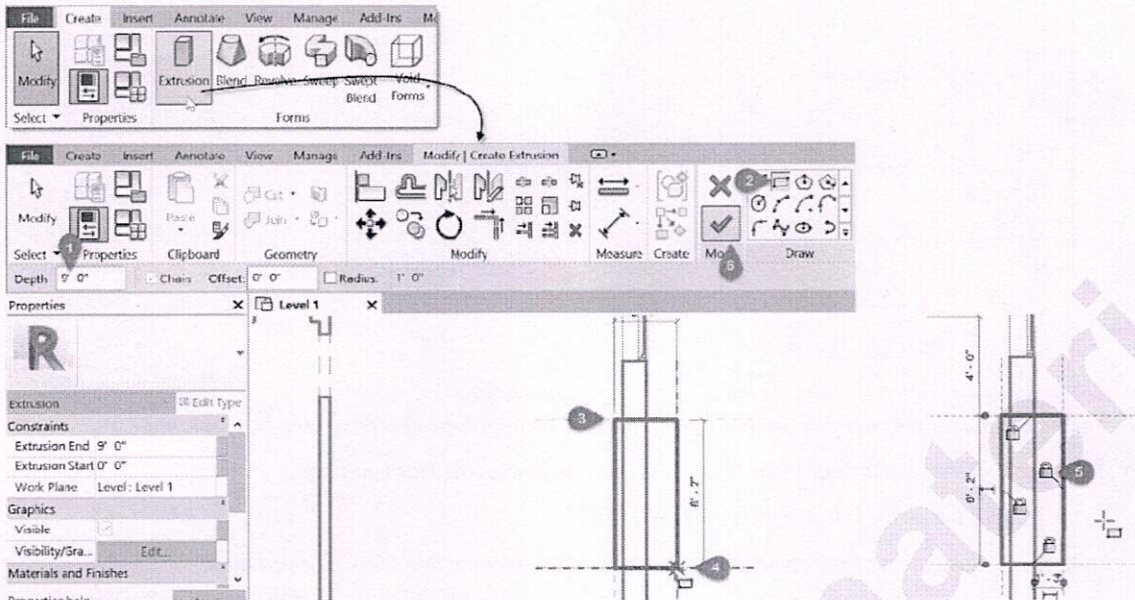

FIGURE 4.62 Sketch the overall shape of the extrusion
1. On the Create tab, on the Forms panel, click the Extrusion tool (see the top of Figure 4.62).
- ⇒ On the Options Bar, in the "Depth" field, type: **9'-0" [2750]**. (Be sure to set the Depth and not the Offset—Item 1 in Figure 4.62.)
2. On the Draw panel, for the sketch shape, click the Rectangle icon (see item 2 in Figure 4.62).
- ⇒ Snap to the intersection of two of the reference planes and then snap to an opposite intersection to define the rectangular shape (see items 3 and 4 in Figure 4.62).
- ⇒ Close all four padlocks (see item 5 in Figure 4.62).
3. On the Modify | Create Extrusion tab, on the Mode panel, click the Finish button (large green checkmark) (see item 6 in Figure 4.62).